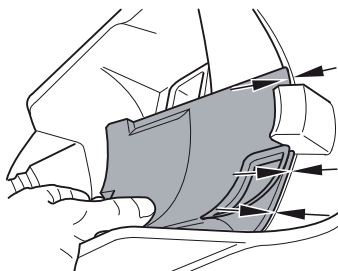

Fig. 30
10. Replace the filter cover by hooking it in precisely on the top first (Fig. 30).
The edges of the filter cover and the filter bracket must be exactly flush (Fig. 30).
If this is not the case, refit the filter cover (Fig. 30).